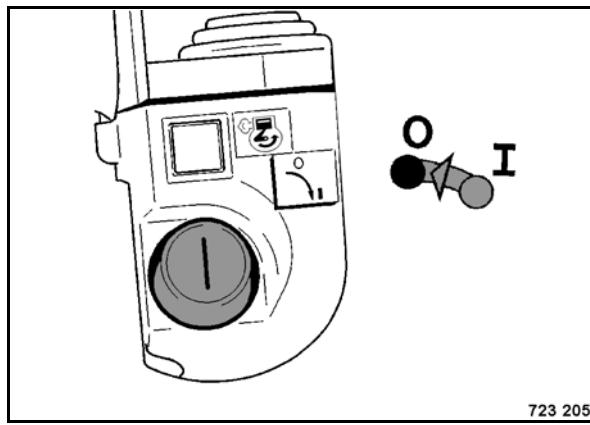

Fig. 81
- Switch off the ignition (Fig. 81).